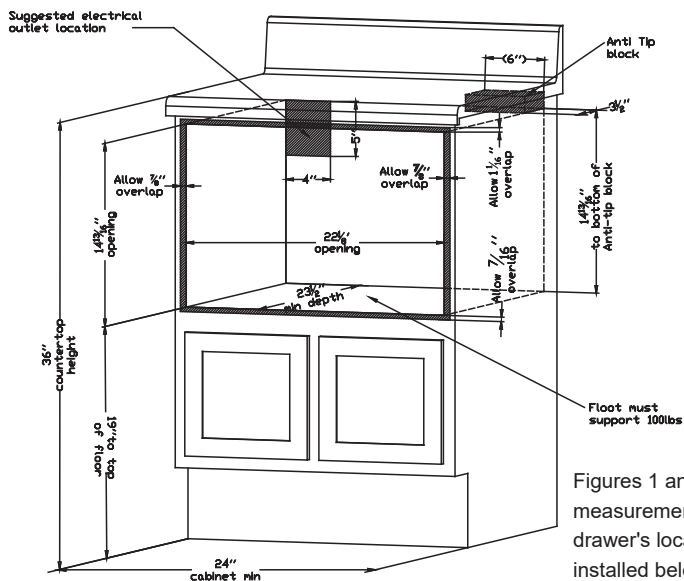
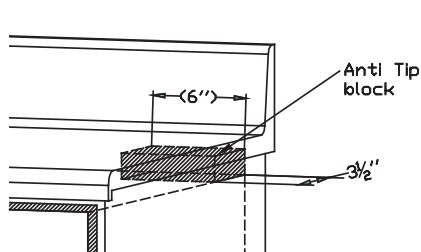

Figure 1
Figure 3
For SAFETY CONSIDERATIONS do not install drawer in any combustible cabinetry, which is not in accord with the stated clearances and dimensions on pages 2 and 3. See Figure 1.
*Dimensions that are shown in Figure 1 must be used. Given dimensions provide minimum clearance. Locate electrical outlet in the shaded area in the upper left-hand corner of the cutout. See Figure 3.
Figures 1 and 2 contain many Microwave Drawer measurements for reference when planning the drawer's location. This Microwave Drawer can be installed below any electric or gas wall oven.
To reduce the risk of tipping of the drawer, the Anti-Tip block must be properly installed located 14 13/16-inches above the floor on which the Microwave Drawer will sit. The 6-inch Anti-Tip block must be provided by the installer. See Figures 1 and 3. The Anti-Tip block prevents serious injury that might result from spilled hot liquids.